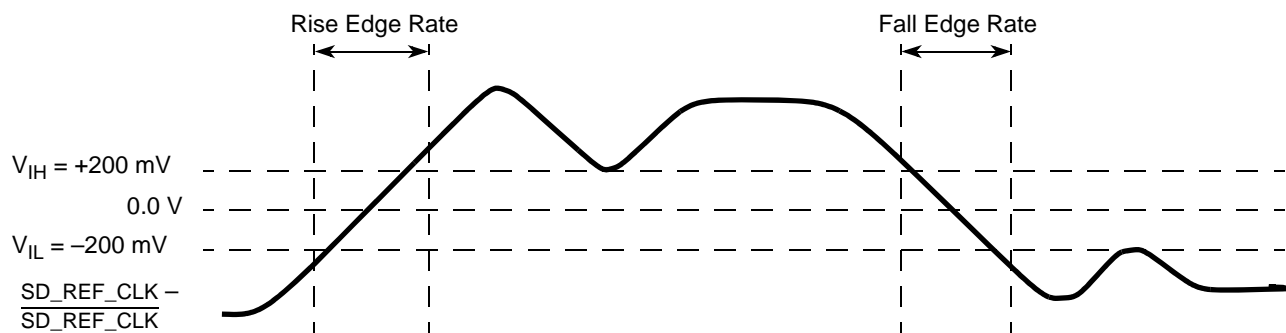

Figure 52. Differential Measurement Points for Rise and Fall Time
3. Measured from -200 mV to +200 mV on the differential waveform (derived from $\overline{SDn_REF_CLK}$ minus SDn_REF_CLK). The signal must be monotonic through the measurement region for rise and fall time. The 400 mV measurement window is centered on the differential zero crossing. See Figure 52.